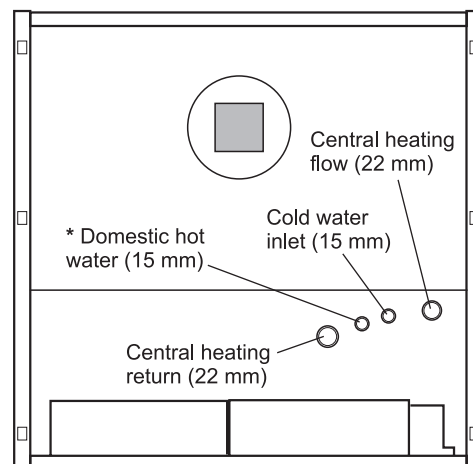

Fig. 22 - Combi V3 and Combi Max pipe positions
- 3 Fit the four push-fit elbow connectors onto the open pipe ends. See Fig. 22. Connect the pipework (not supplied with the boiler) to the elbows.